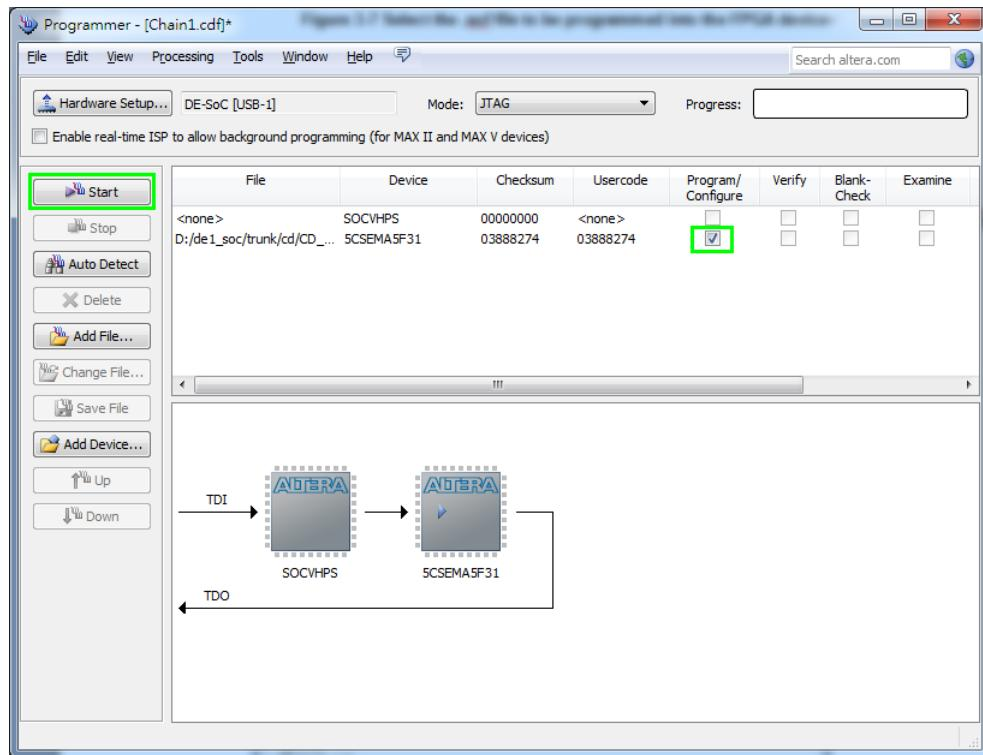

Figure 3-12 Program .sof file into the FPGA device
7. Click “Program/Configure” check box and then click “Start” button to download the .sof file into the FPGA device, as shown in **Figure 3-12**.